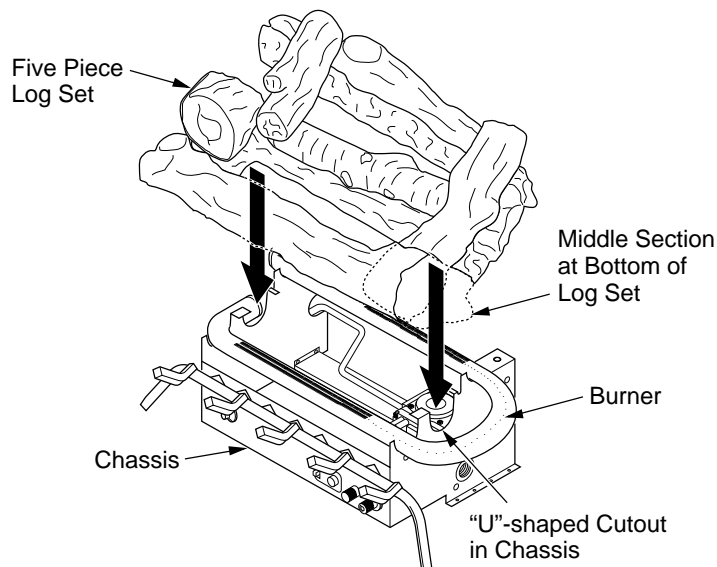
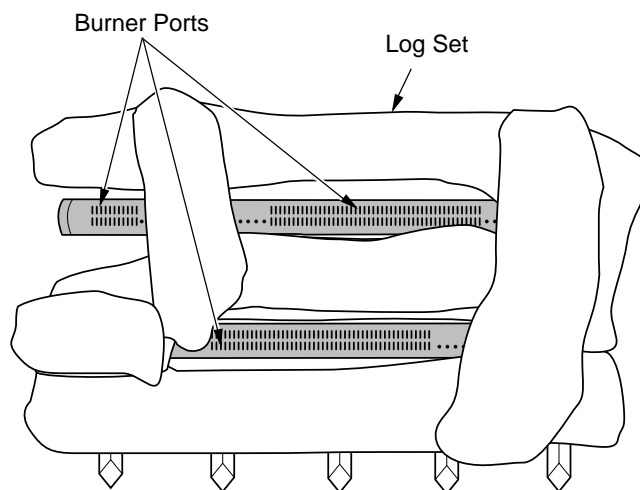

Figure 24 - Installing Golden Oak One-Piece Log Set
Figure 25 - Installing Golden Oak Log Sets (Top View)
1. Place one-piece log set on grate to fit as illustrated in Figure 24. Make sure middle section at bottom of log set is seated into "U"-shaped cutouts in center of chassis (see Figure 24). **IMPORTANT:** Make sure log does not cover any burner ports (see Figure 25).
5. Place left top log (#5) over logs #2 and 3. Left top log will fit into indentions in these logs. **IMPORTANT:** Make sure logs do not cover any burner ports (see Figure 25, page 16).